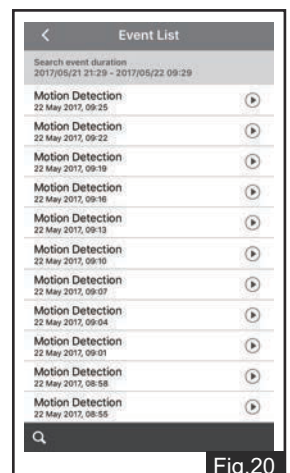

Fig.20
19. Select "⚙", then select "☰" in pop-up box, skip to Fig.20. Select "📷" to access user phone picture. Select "⚙", skip to Fig.21.